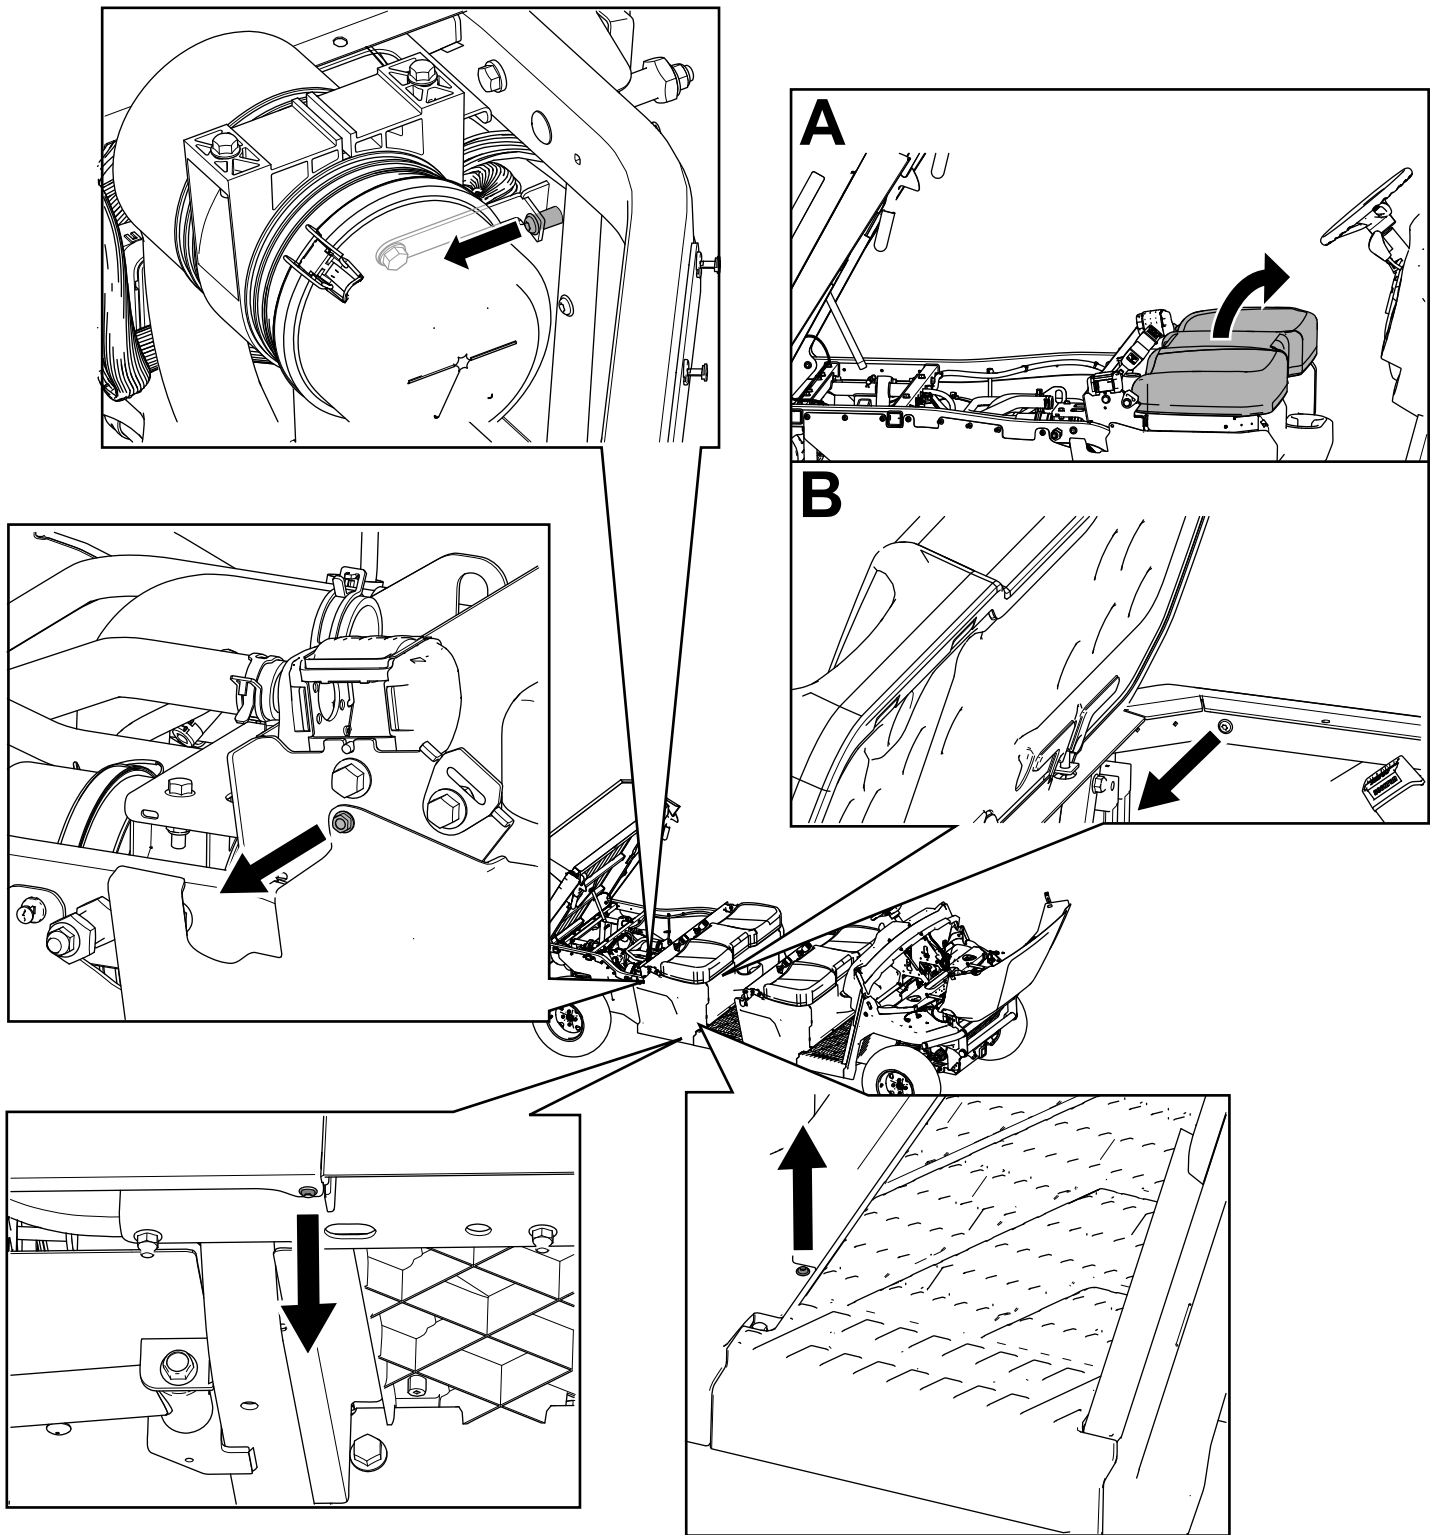

Figure 38
3. Remove the hex-washer head bolts (1/4 x 3/4 inch) and T30 torx-head fasteners from the 2 right and 2 left seat-base panels (Figure 38).